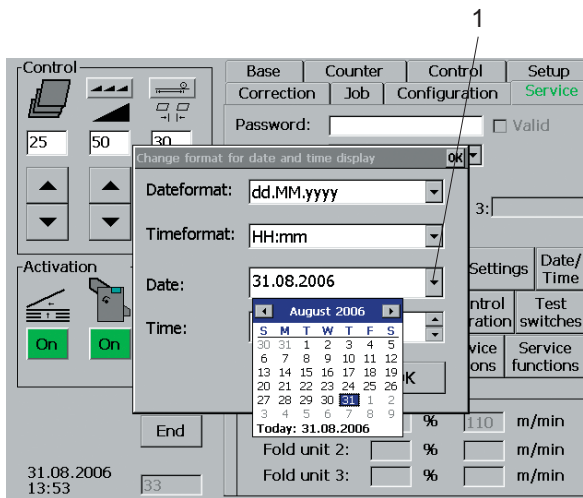

Fig. 82 Setting the date
1. Touch the *arrow* (Fig. 82/1) in the Date window.